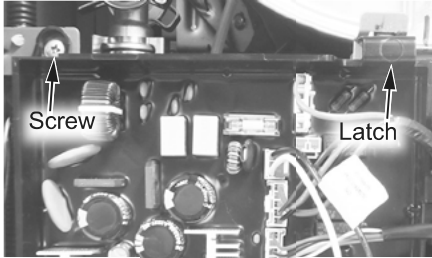

Figure 3 - Control board location
- 11** Locate the screw securing the control board panel. Use a Phillips screwdriver to remove the screw and place it aside in a safe place for re-installation. See Figure 3.